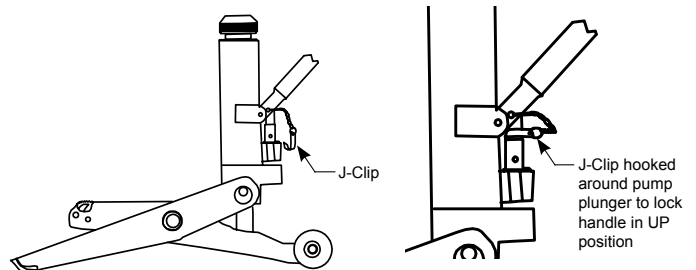

Figure 2
3. Raise the pump handle as far as it will go and place the J-clip around the pump plunger shaft to lock the pump handle in the up position (see figure 2).
5. If the jack pump handle is not in the socket, insert the pump handle and lock it into position with the quick-release locking pin provided. Remove the J-clip from the pump plunger shaft (see Figure 2).